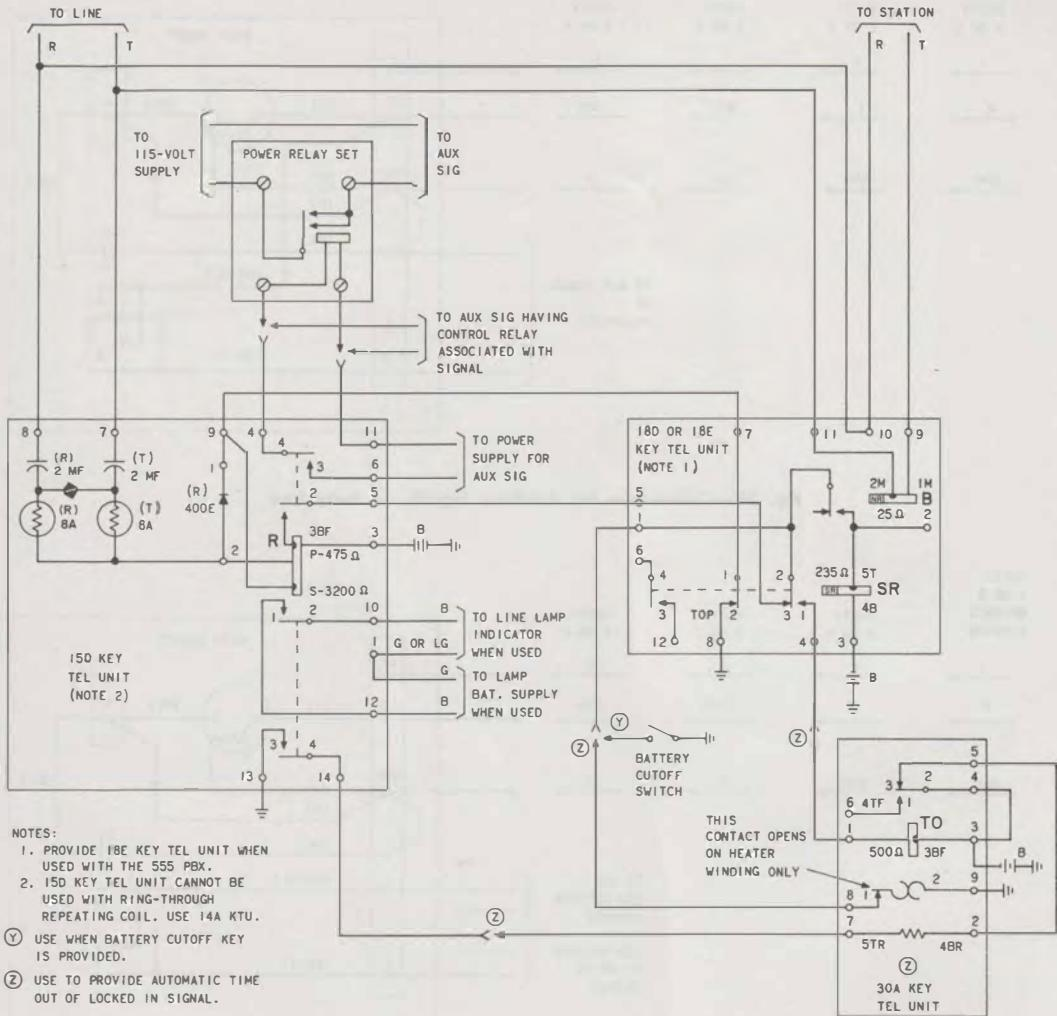

Fig. 30—Connections and Circuit Operation for Continuous Auxiliary Signals
4.02 Continuous Signals (Fig. 30): The circuit operates as follows:
6.07 Continuous operating signals, either low voltage or power operated, should be connected as shown in Fig. 30. Low voltage signals connect directly to the 15D key telephone unit.